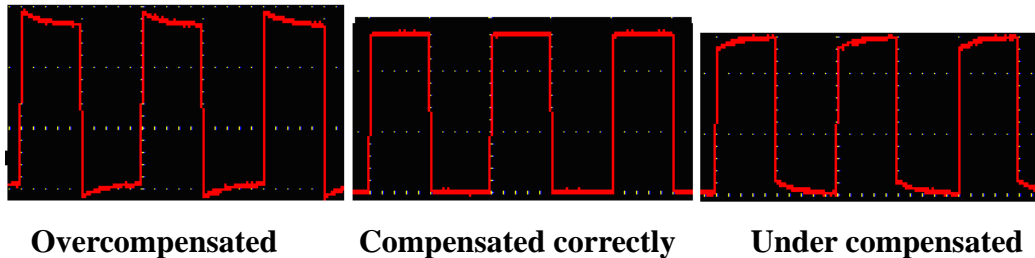
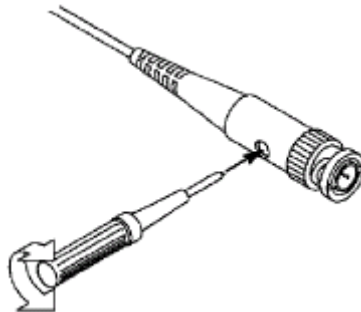

Fig. 4-8 Displayed Waveforms of the Probe Compensation
Fig. 4-9 Adjust Probe
2. Check the displayed waveforms and regulate the probe till a correct compensation is achieved (see Fig.4-8 and Fig.4-9).
Shown as Fig.4-9, there are a series of buttons and knobs in **VERTICAL CONTROLS**. The following practices will gradually direct you to be familiar with the using of the vertical setting.